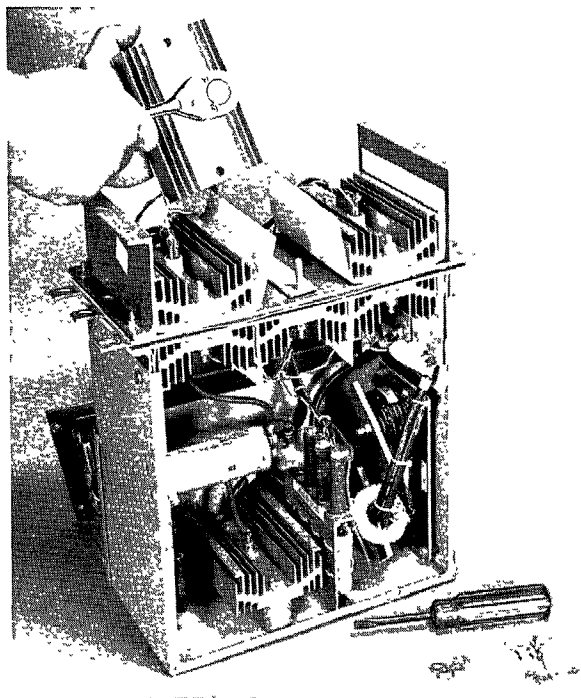

FIGURE 19
4. Remove four (4) machine screws and nuts that secure the front, red plastic insulation cover to the converter module.
6. Remove the two (2) nuts that secure the defective SCR heatsink to the DC bus (P1 or N1).
8. Remove the stud mounted SCR from its heatsink. It is secured with a nut and lock washer. See Fig. 19